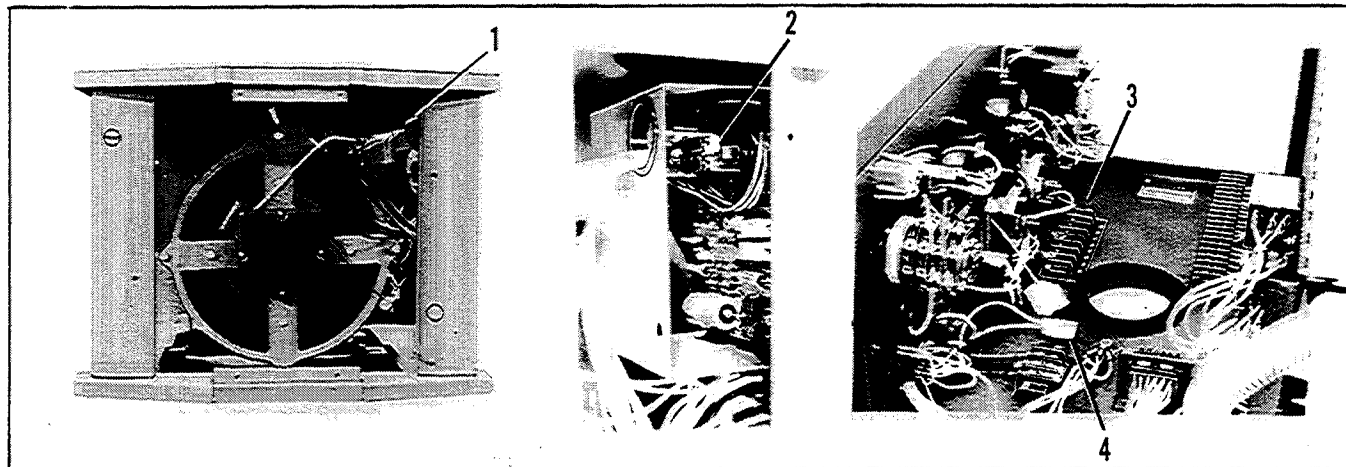

Figure 4-6. AVR and Connections
1. Check for an open circuit between leads V7 and V8 (voltage sensing leads) from voltage regulator (AVR) to terminal strip controller (see Figure 4-6). If these circuits are open or shorted, repair or replace. Check 15-Amp fuse (if equipped).